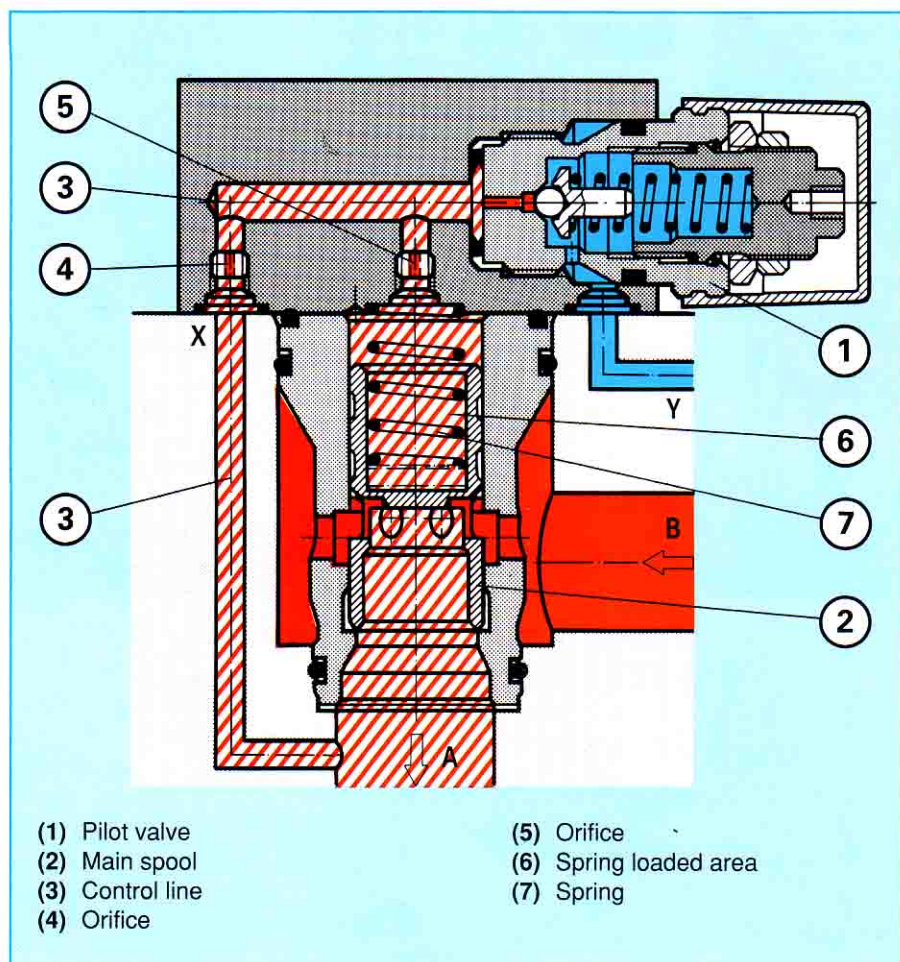

Fig. 122
The pilot operated reducing valve shown in Fig. 122 can be considered as the "standard" model. It consists of a logic element with spool type main valve (2) with no secondary effective area at B and a direct operated pressure relief valve as a pilot valve. It is thus identical with valves for the pressure relief function.